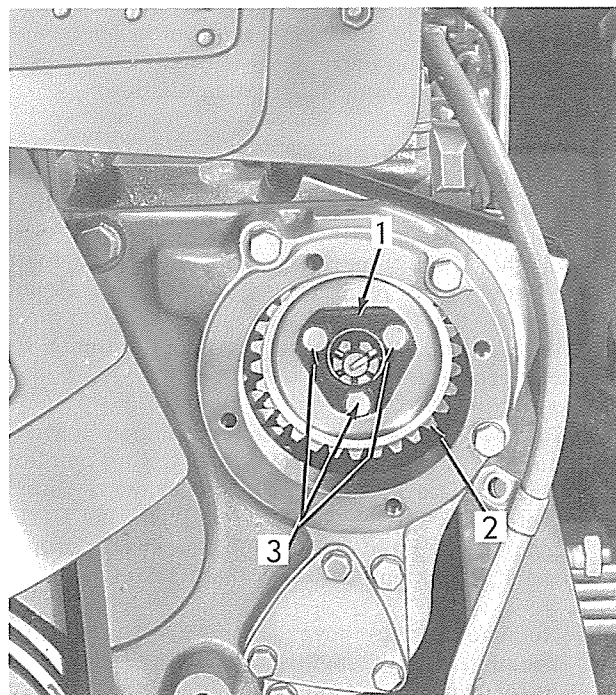

Fig. 23 — Fuel Injection Pump Drive Gear
- b. Remove capscrews Fig. 23 (3), serrated
- b. Install pump drive gear, Fig. 23 (2) on drive gear hub. Install serrated plate (1) and start attaching capscrews (3) but do not tighten at this time.